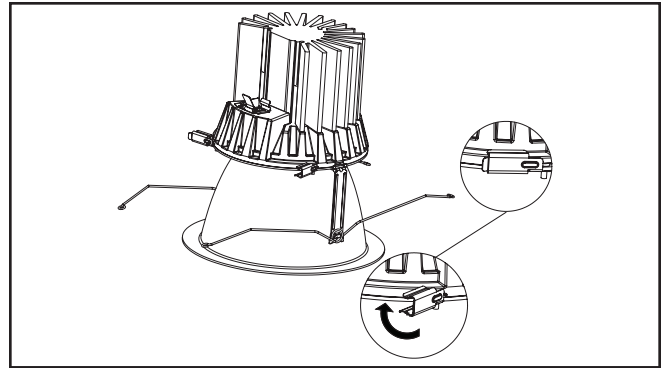

Figure 7.
3. Rotate side clips (3) into place to securely attach trim assembly to LED engine (Figure 7).